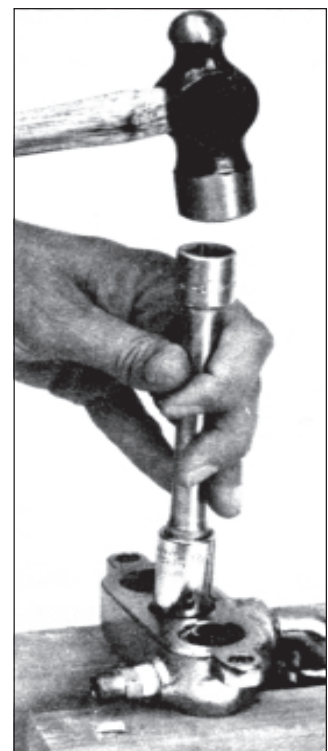
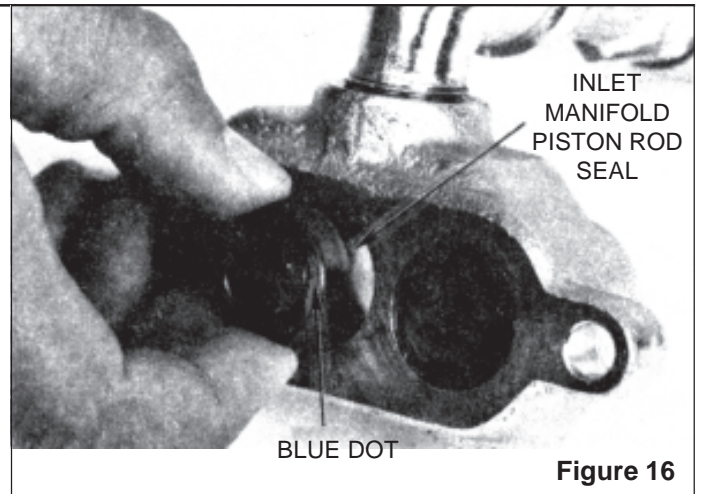

Figure 15
Figure 16
- c. New seals are inserted into the manifold, make certain blue dot on seal faces towards back of manifold or towards you (Figure 16). Seals can be seated by driving with a 5/8" socket and hammer (Figure 15).